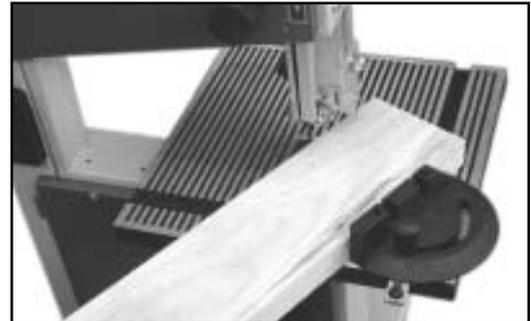

Fig.16
13. Use the miter gauge for angle cutting (See Fig. 16).